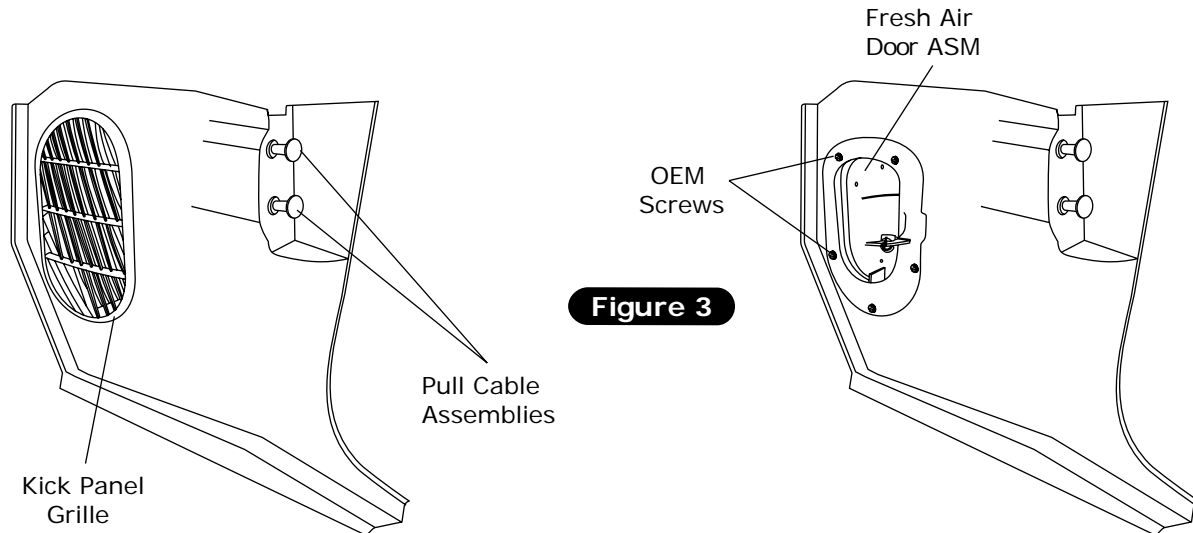

Figure 3
1. Remove kick panel grille (discard). Remove kick panel by removing (5) OEM screws from the fresh air door assembly. Disconnect and discard pull cable assemblies from the kick panel (See Figure 3, below).